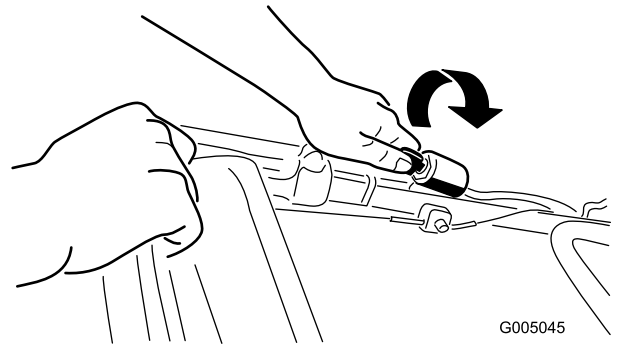
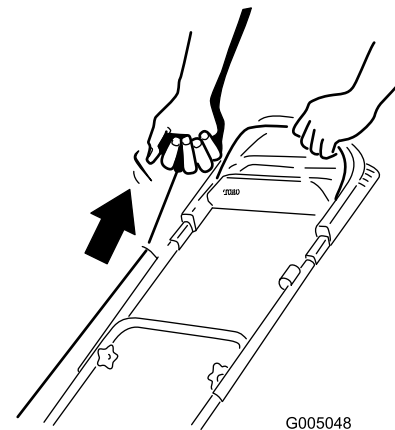

Figure 15
Figure 16
3. Turn the ignition key (Figure 15) (model 20098 only) or pull the recoil start handle (Figure 16).